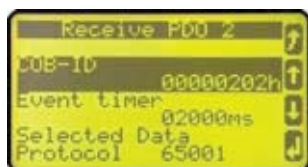

Fig. 173: RPDO configuration for 2nd IKD 1 (example HMI)
2. ➔ Set up RPDO2 for the easYgen on the front panel as shown in (Fig. 173).